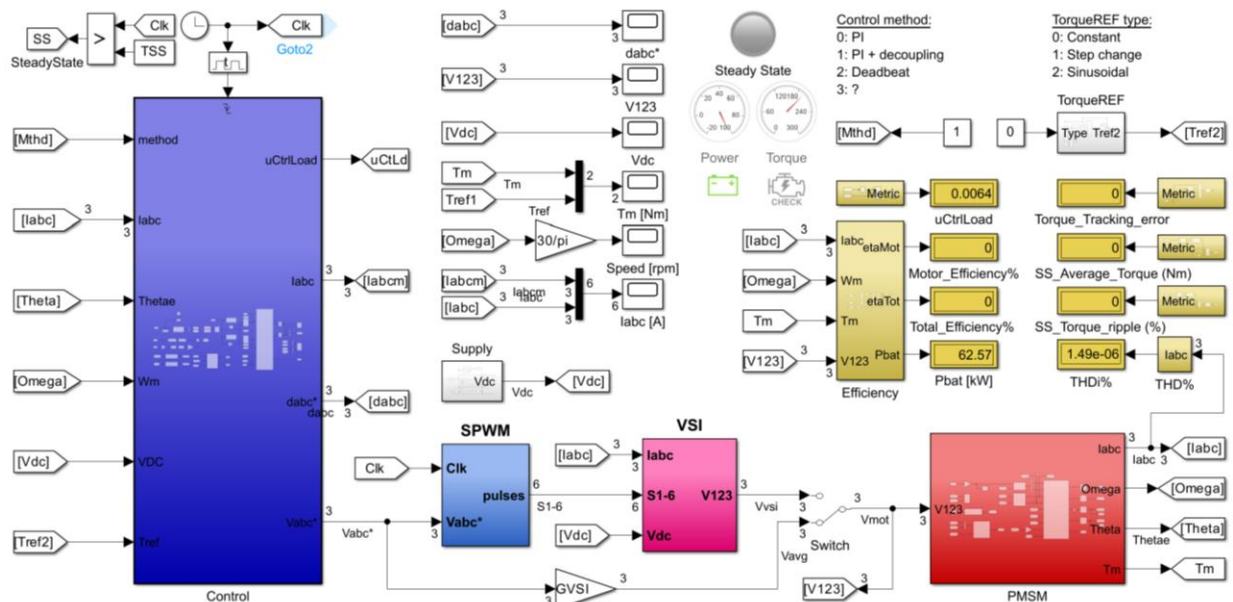

Figure 2- Simulink program.
- ✓ – Set the torque type (torqueREF, top-right) to “Constant” and the current control method (Control method, top-right) to “PI + decoupling” (see Figure 2).
- ✓ – In this section, we do not consider the voltage-source inverter (VSI). Therefore, set “Switch” on the main Simulink page (bottom-right) to “Vavg” position (see Figure 2). We do not care about the total efficiency under this condition as the VSI is not in the loop.
- Set “Switch” to “Vvsi” position (see Figure 2, bottom right).
- Set the manual switch in Simulink>Efficiency to “Pbat” (see Figure 2).
- Select “PI + decoupling” as the current control method and “Step change” as the torque type (see Figure 2).